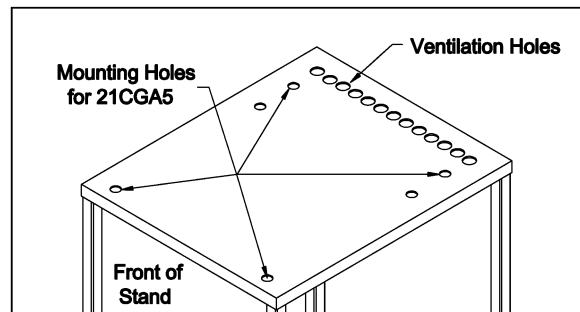

Figure 3-2
5. Position steamer mounting bolts over the first and third set of 1" holes in the stand top (Figure 3-2)
- These holes **MUST** line up (Figure 3-2)
- If the gas or propane supply pressure exceeds 14" water column, a pressure regulating valve (pressure regulator) must be installed in the gas supply line to reduce pressure to this appliance. See Figure 3-2.